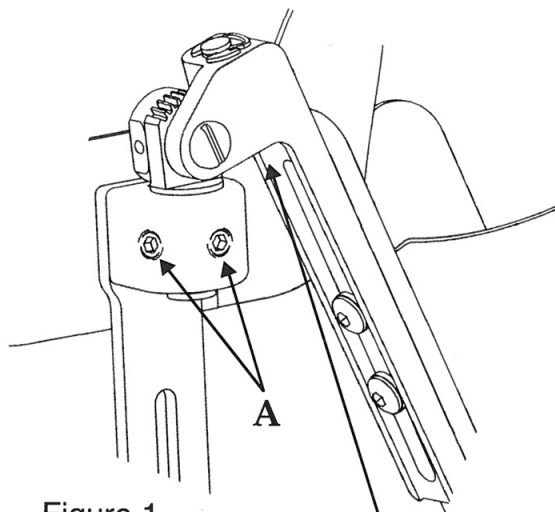

Figure 1.
- 1) Remove the assembly from the box and use the hex key provided to loosen the two set-screws (A) shown in Figure 1. Rotate the arm section away from the trunk section.
- 6) Position the arm section in the desired position of horizontal rotation. Tighten both set screws (A) in the pivot housing securely. (See Figure 1)
- 7) Set the abduction angle by turning the “worm” screw in the abduction joint bar. (See Figure 1) This worm-gear mechanism is “self-locking”—there are no screws to tighten after adjusting it.